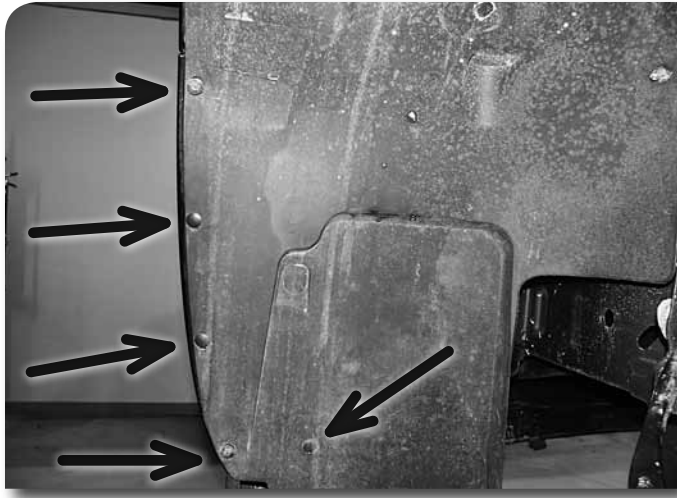

Figure 2
7. Remove 3 push plugs and 2 bolts indicated per wheel-well Figure 2.